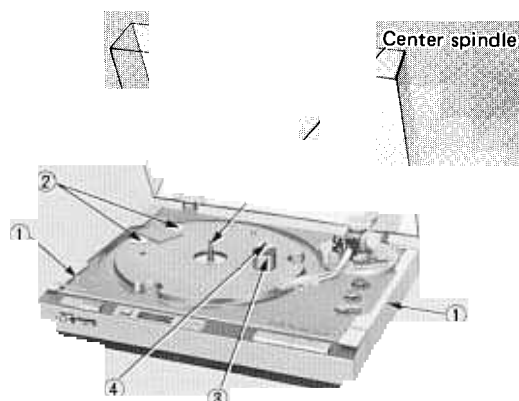
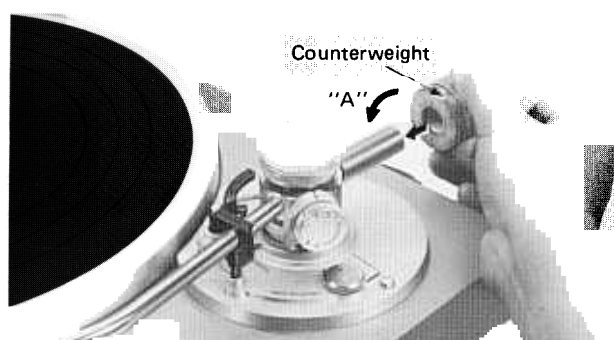

Fig. 1
Fig. 2
1. Remove the protective corners for shipping (1). (See Fig. 1)
2. Remove the 2 shipping screws (2) (red) securing the transformer. (See Fig. 1)
3. Remove the shipping screw (red) (4) securing the counterweight (3).
4. Mount the counterweight onto the weight shaft while turning in the direction A and slide it as close to the tonearm base as possible. (See Fig. 2)